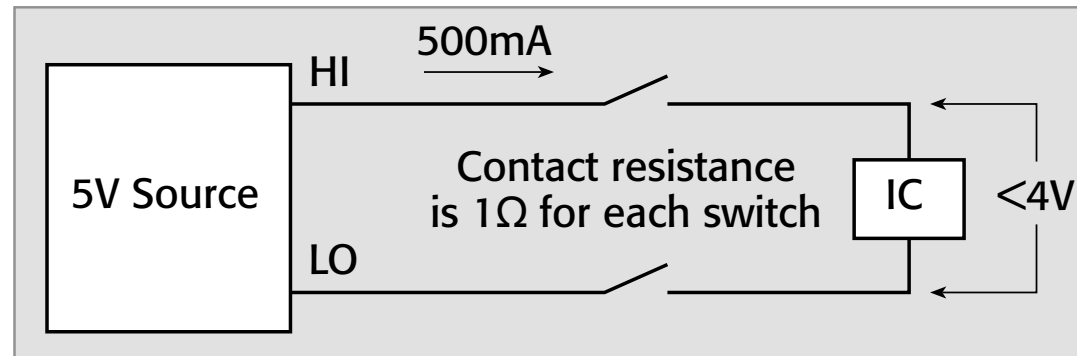
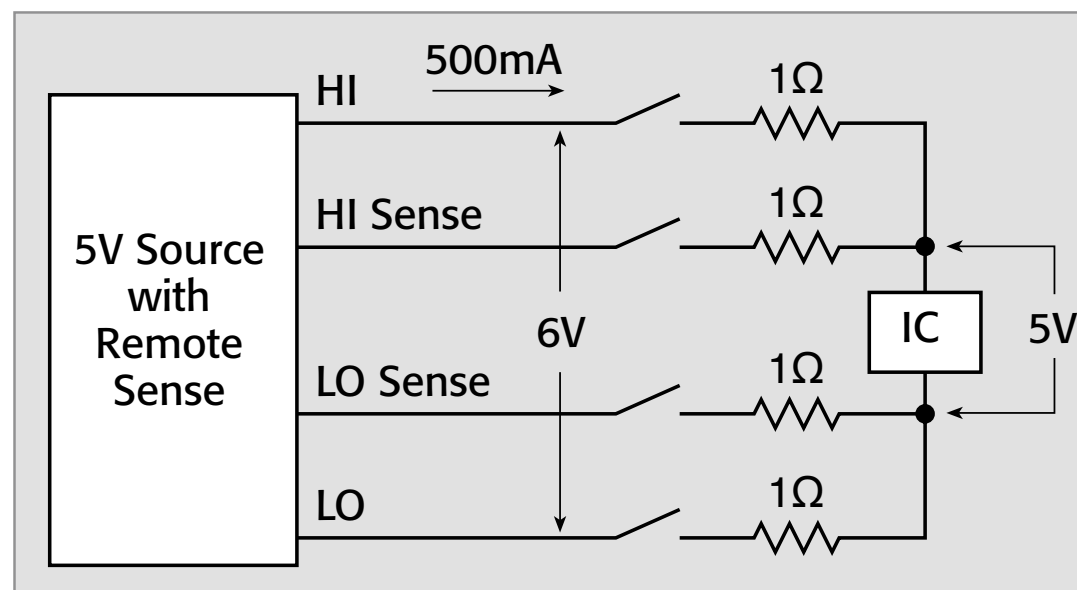

Figure 3a. Voltage drops across the contact resistance cause improper results
Figure 3b. Using remote sense through a switch ensures the proper voltage delivered to the IC
For example, **Figure 3a** shows a 5V source being switched to an integrated circuit (IC). The contact resistance for each switch is 1Ω. If the current drawn from the source is 500mA, the voltage drop across each switch will be 500mV, and the voltage at the integrated circuit will be reduced by a total of 1V. Operation of the IC will likely be unsatisfactory. **Figure 3b** shows a 5V source with remote sense. In this case, sense leads are also connected to the load. This will ensure that the actual voltage across the load will be 5V, and the IC will operate as intended. Note that the voltage at the source output terminals is 6V.